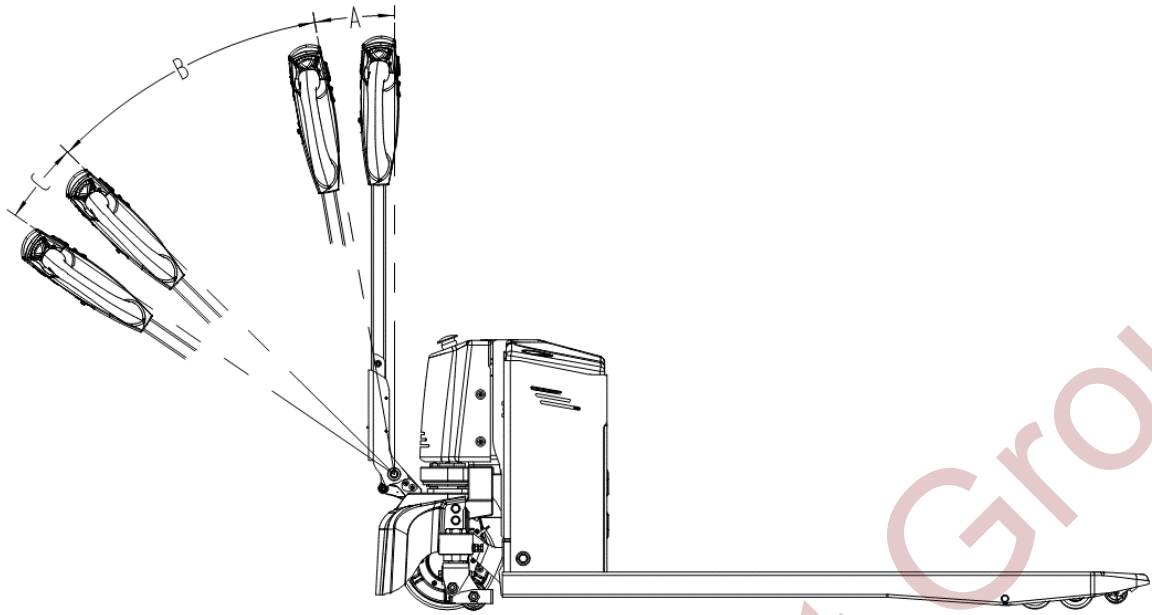

Figure 9
- Turn the handle to A or C quickly for emergency braking (Figure 9), the brake will lock the wheel to achieve an emergency braking.